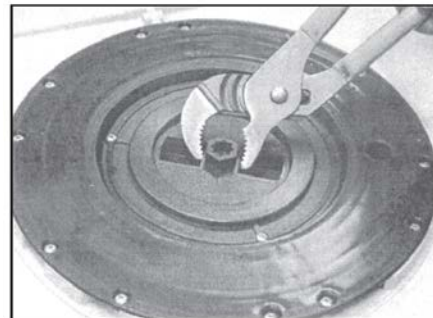

Figure2 /Illustration 2 / ilustración 2
3. Use pliers to tightly hold the center ring using the two openings provided (Figure 2). DO NOT GRIP THE EXTENDED PLASTIC NUT IN THE CENTER OF THE RING.
4. While holding with the pliers, remove the three (3) screws that hold the center ring in place.
6. Carefully make sure that the screw holes line up with the holes in the reel and then reinstall the three (3) screws. Do not over tighten.